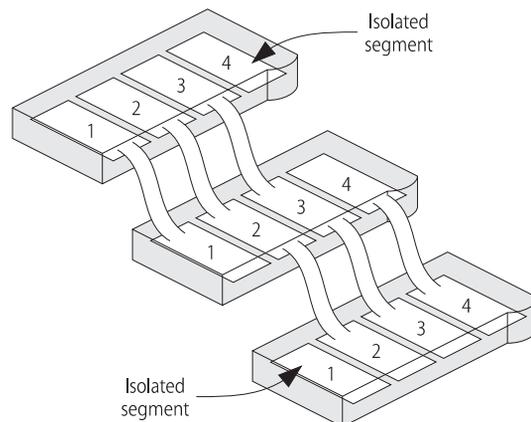

Figure B-10 Cascaded and Isolated Segments Example
- Each cascaded and isolated segment — For example, if you have a stack with two isolated segments, as shown in Figure B-10, the Current Utilization page would have six separate segment bars (four for the cascaded segments, and two for the isolated segments).